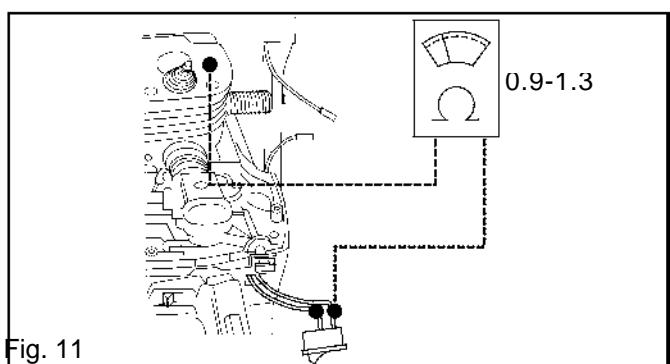

Fig. 11
6. Connect the ohmmeter as shown in fig. 11 and measure the resistance in the generator. The ohmmeter should read between 0.9 - 1.3 . If the reading is higher or lower, replace the generator.